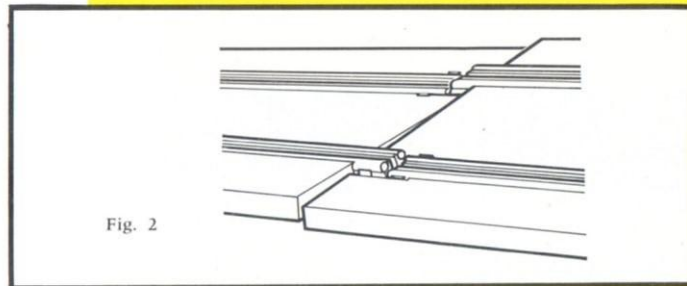

Fig. 2
- 2 Place the two catches in the notches (see Fig. 2).